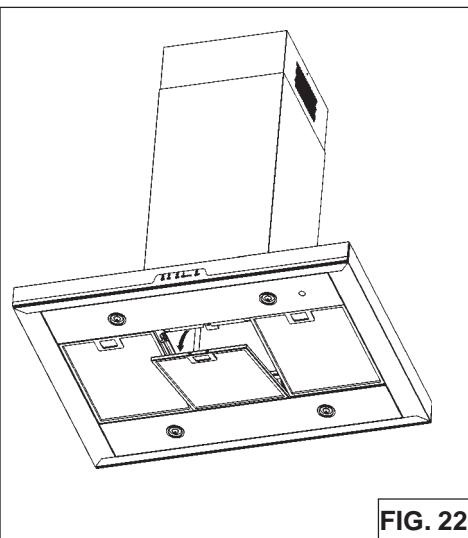

FIG. 22
1. To remove the GREASE filter, push in latch tab to disengage the filter from the hood. Tilt the filter downward and remove (Fig.22).